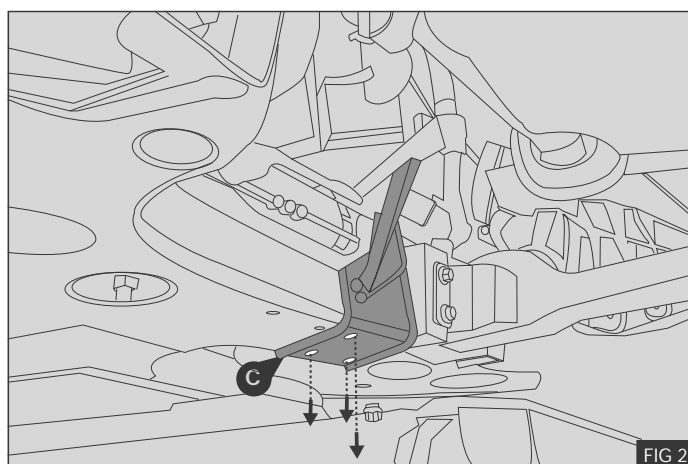
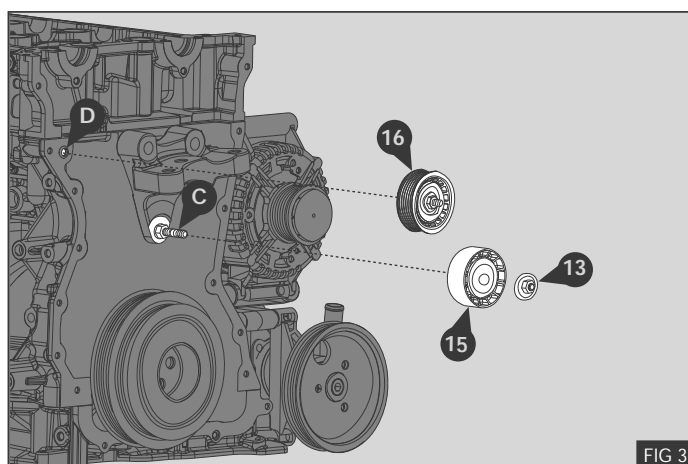

FIG 2
FIG 3
3. Remove the 3 x M8 bolts securing the exhaust mounting bracket (C) shown - Fig 2
1. Fit the supplied back idle pulley (15) onto the original stud (C) located on the engine mount and secure using supplied nut (13) - Fig 2
2. Torque nut (13) to 17 Nm / 13.0 Lb ft using a calibrated torque wrench
3. Fit the supplied idle pulley (16) onto the mounting at point (D) - Fig 3
NB : It may be necessary to remove excess gasket covering the mounting hole (D) - Fig 3
5. Remove the original manufacturers wiring loom fitted to the automatic belt tensioner (14) mounting holes - Fig 3